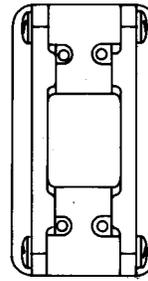

Fig. 14—419D Plug
2.14 419D: The 419D (Fig. 14) is a red, molded, plastic plug having four terminals. The 419D plug contains a 470-ohm resistor between terminals 3 and 4 and a 3000-ohm resistor between terminals 1 and 2. This prevents the E6 Voice Frequency Repeater from singing when the repeater is not terminated.